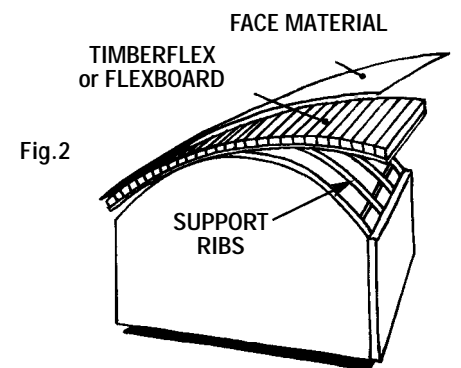

Fig. 2
NON-VACUUM METHOD - FIGURES 2 AND 3
3. The form for this process should be made of ribs that will provide the radius required to produce the correct size door. Remember that these ribs must allow for the thickness of the **Timberflex** or **Flexboard**, as this will be the inside radius of the door. You will need a support rib about every 6 inches to provide the needed support. (Fig. 2)